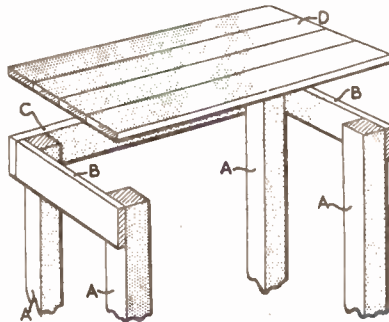

Fig. 2
pieces (B), of which there are four. Each piece (B) measures 23 $\frac{1}{2}$ ins. by 3ins. The top pair are on the outside of the legs and the lower pair on the inside. Next glue the back rail (C), (Fig. 2), and the top pieces (D) in position. Pieces (D) are all 42ins. by 6ins. and are butted